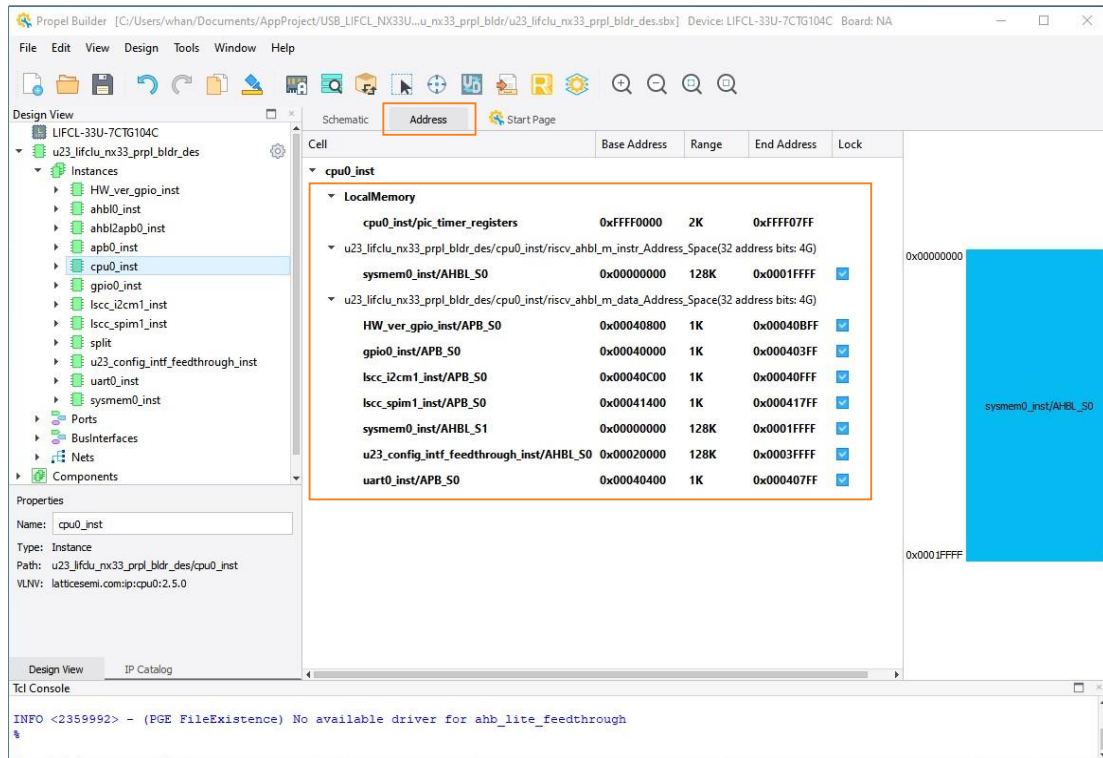

Figure 5.10. Base Address Assignment
3. Click the **Address** tab to review the base address assignment for the system and all peripherals within the Propeller Builder Project, as shown in Figure 5.10.